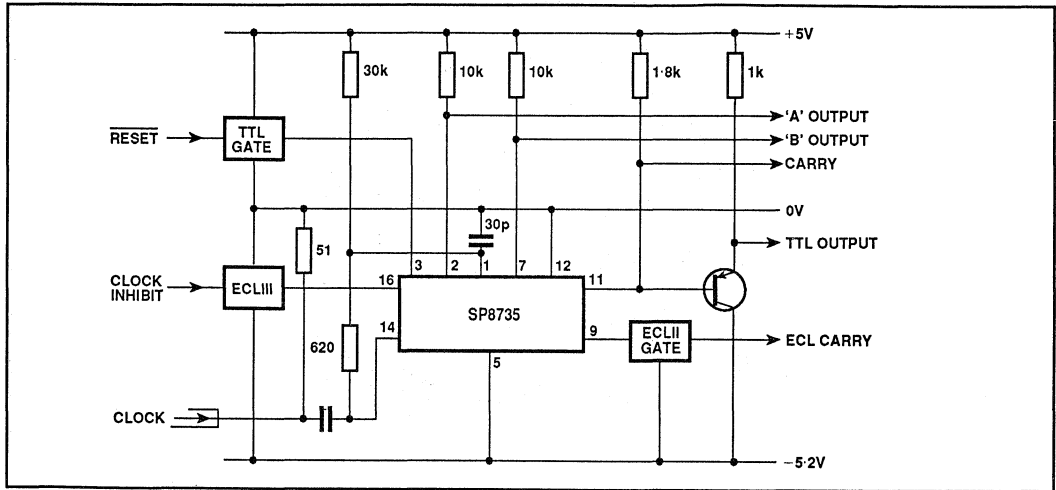

Fig. 6 Typical application configuration
6. The 'A', 'B' and TTL carry outputs (pin 11) are current sources and require the addition of $10\text{k}\Omega$ resistors (pins 2 and 7) and a $5\text{k}\Omega$ resistor (pin 11) to $+5\text{V}$ as shown in Fig. 6. This gives a fan-out of 1, which can be increased by buffering with a PNP transistor as shown in Fig. 6.